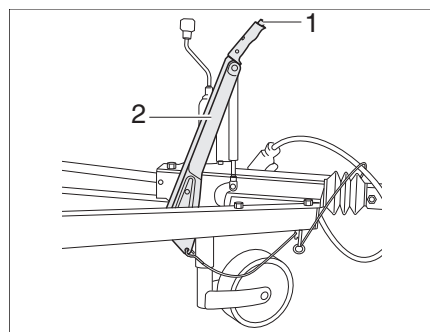

Fig. 14 Alternative: Handbrake
- In order to release it, press the securing button (Bild 14,1) and lower the handbrake (Bild 14,2).